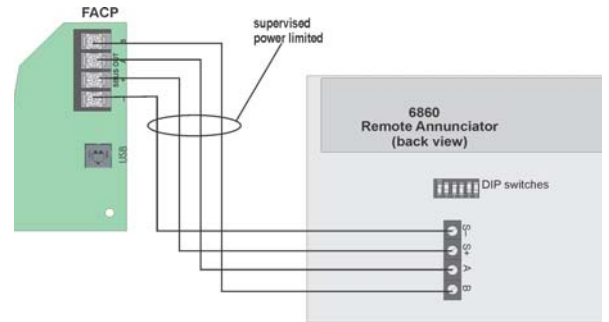

Figure 7: SBUS Connections
3. Wire the annunciator board to the main control panel. See Figure 7.
3. Connect wires from the 6860 to the SBUS connectors on the FACP as shown in Figure 7.
Wire the 6860 to the FACP as Shown in Figure 7.
3. Connect the 6860 to the panel (see Figure 7).